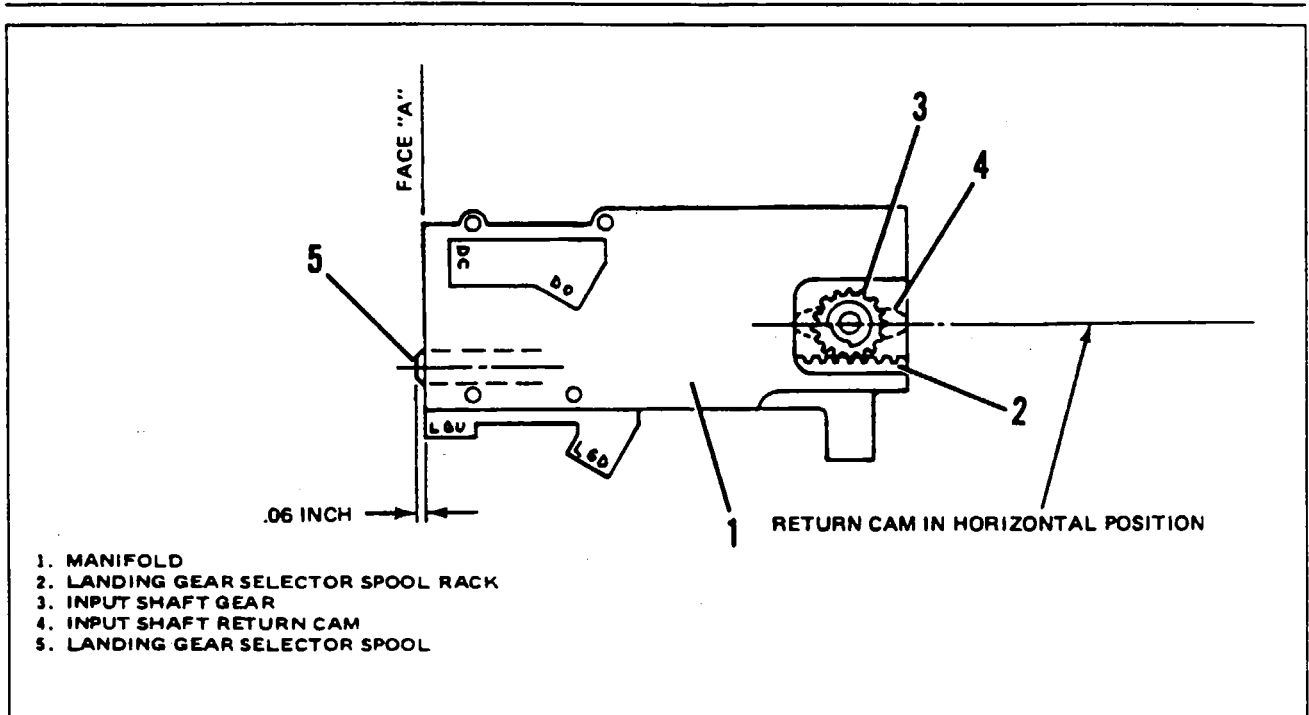

Figure 6-16. Indexing of Selector Spool (Wiebel Tool)
When mating the manifold with the Power Pack body, index the landing gear selector spool rack with the input shaft gear as shown in Figure 6-16. With landing gear selector spool (5) protruding .06 inches from face "A" of manifold (1) and the input shaft return cam (4) in the horizontal position, tooth of input shaft gear (3) will match with tooth space in the landing gear selector spool rack (2).
- Install the four manifold attaching bolts and torque to 35 inch-pounds. Do not over torque bolts as this will cause binding of the landing gear selector spool (17).
- Lubricate "O" ring (22) and "O" ring (24) and install on plunger (23).
- Install plunger (23) and lubricated spring (25) into manifold (35).
- Lubricate threads of retainer (26), install into manifold (35). Torque to 25 inch-pounds and safety wire retainer (26) to manifold (35) using wire (47).